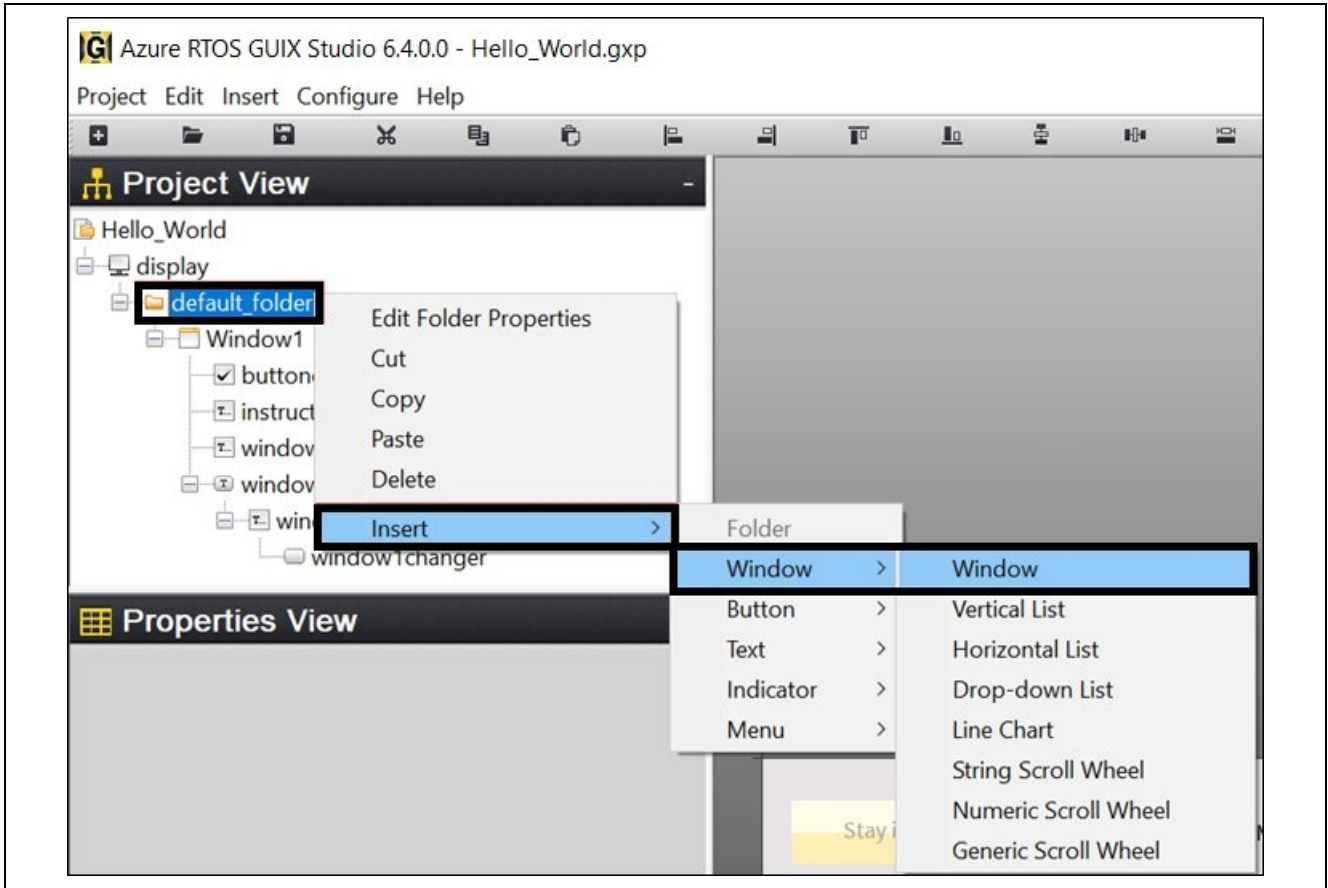

Figure 61. Insert Window2
24. **Insert Window2.** Right click on **default_folder** and **Insert > window > window** follow Figure 61.